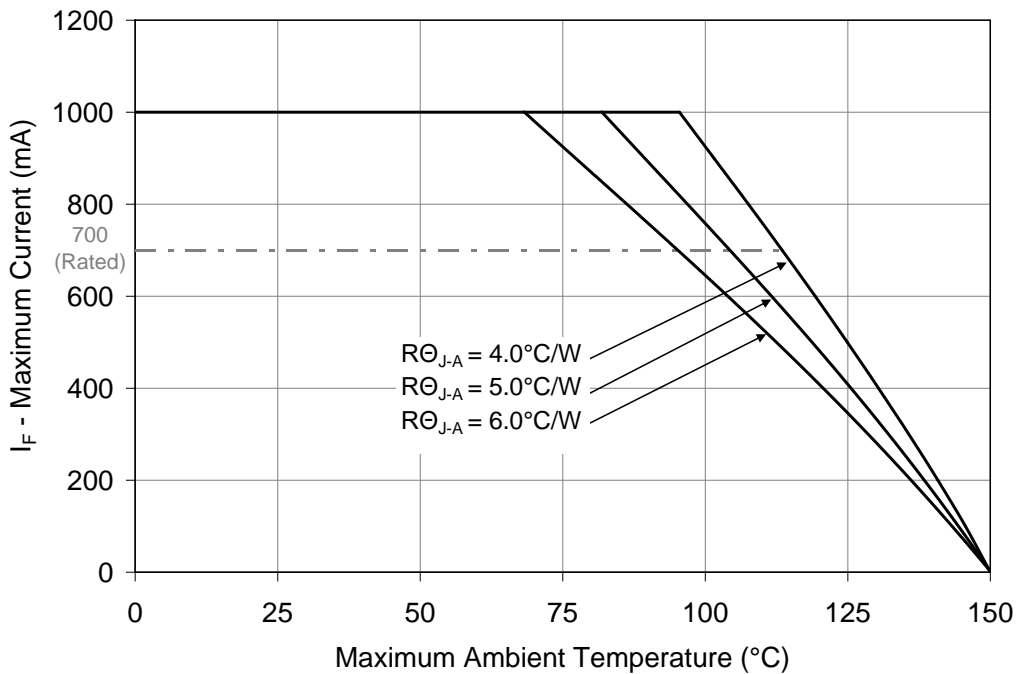

Figure 11: Maximum forward current vs. ambient temperature based on  $T_{J(MAX)} = 150^\circ\text{C}$ .
- Maximum DC forward current is determined by the overall thermal resistance and ambient temperature. Follow the curves in Figure 11 for current derating.
Notes for Figure 11: